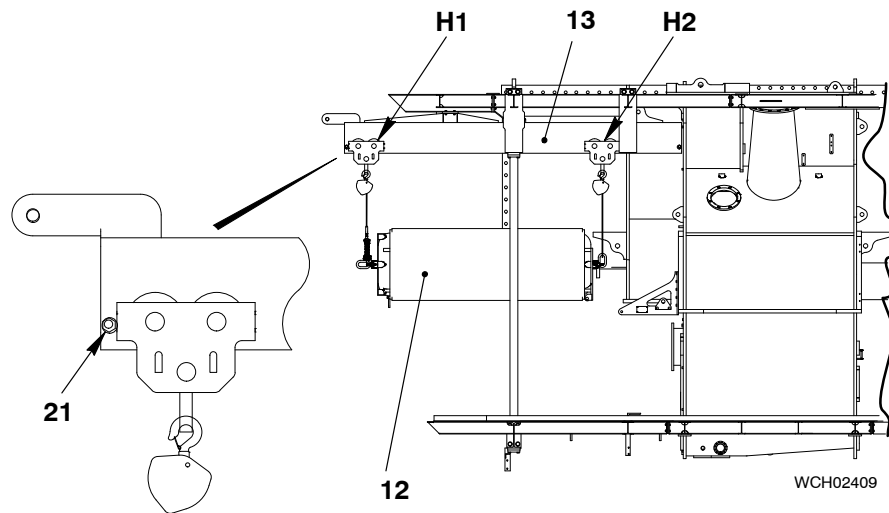

Fig. 12
- 23) Carefully move the chain blocks (H1 and H2, Fig. 12) together with the SAC (12) along the rail (13) until the chain block (H1) touches the end stop (21).